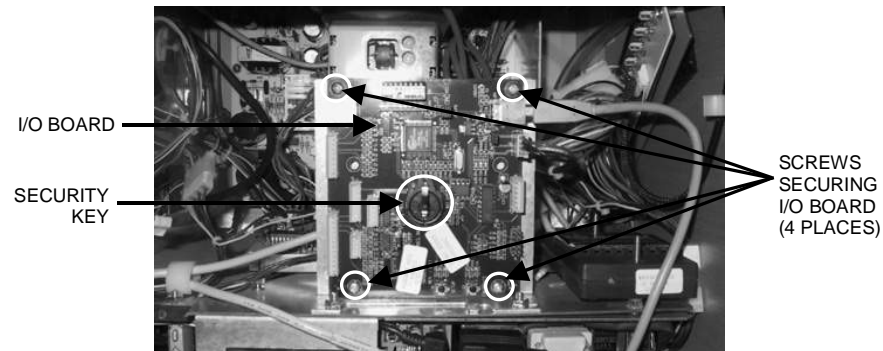

FIGURE 2 - ORIGINAL I/O BOARD IN CLASSIC GAME
4. Disconnect all of the harnesses from the I/O board, noting their positions so that you can connect them to the new board. See Figure 2.
5. Remove the 4 screws securing the I/O board and remove the I/O board from the game. See Figure 2.